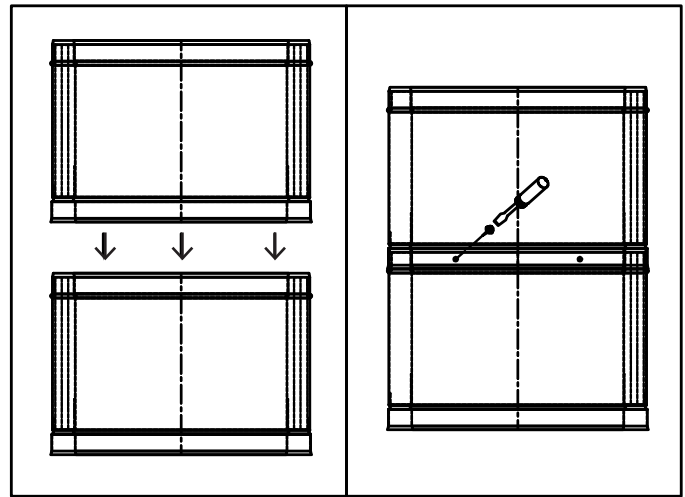

FIG. 1
The 14TG, 16TG and 18TG chimney system is designed for quick and easy installation. The flue and casing assemble at each joint using a male to female slip fit. Each joint is secured together with four (4) sheet metal screws at the casing (See FIG. 1).